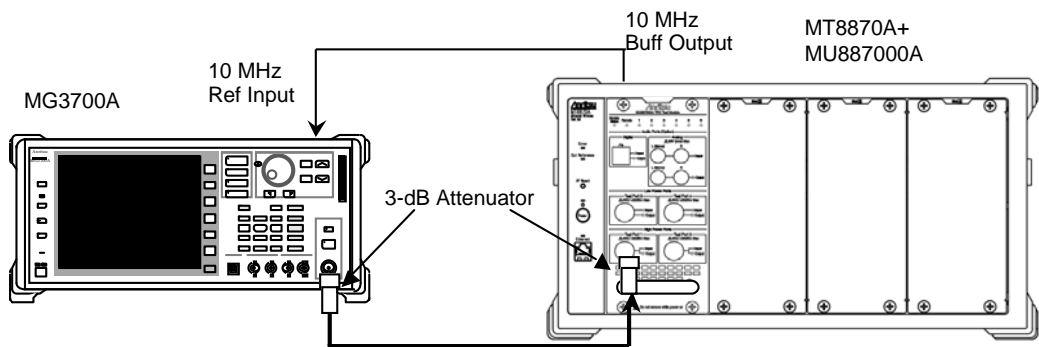

Figure 5.3.4-1 Setup for Measuring Amplitude Measurement Accuracy
1. Setup the instruments as shown in Figure 5.3.4-1.